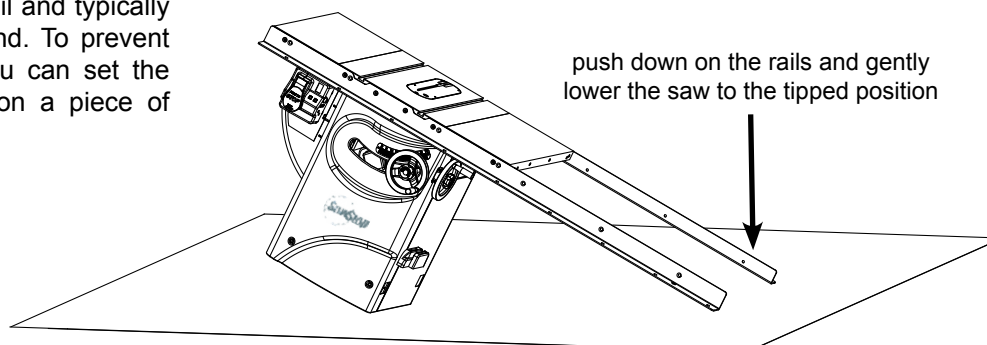

Fig. 22
- With the front and rear rails are securely mounted, any out-feed table removed, and the extension table legs removed or rotated out of the way, the saw can be tipped to the side. To make the saw easier to tip, adjust the tilt handwheel until the blade is set at 45° to the table. Make sure the saw is on a level surface and then, with the help of an assistant, grip the sides of the rails near the ends and push down to gently lower the rails to the ground (see Fig. 22). Do not grip an extension table or the end of the rails to lower the saw to the tipped position because you might pinch your fingers between the extension table or rails and the ground. The rear rail is shorter than the front rail and typically will not touch the ground. To prevent scratching the rails, you can set the edge of the front rail on a piece of cardboard or cloth.